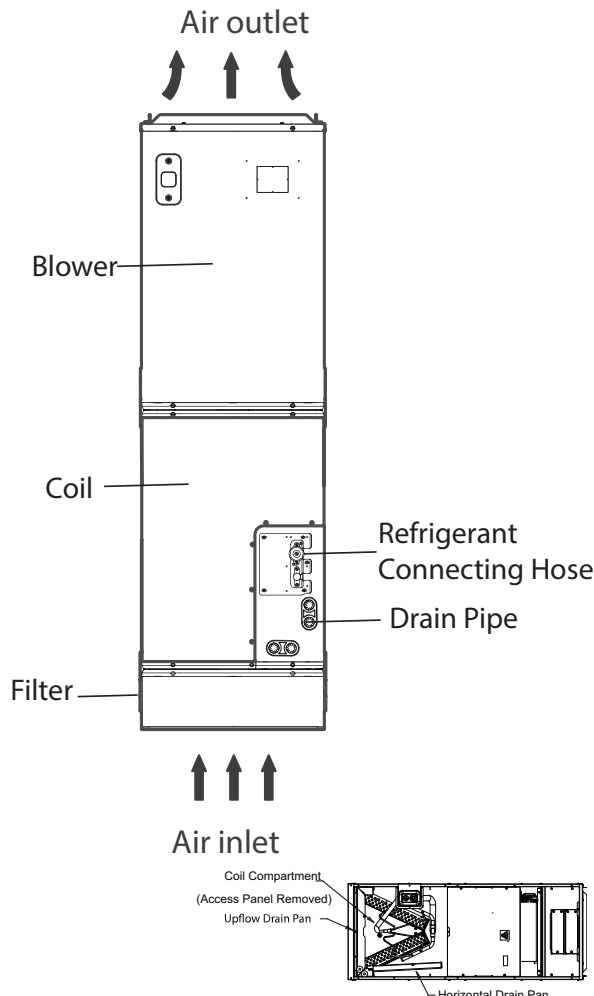

Fig. 15 —Indoor Unit Representation
- Illustrations in this manual are for explanatory purposes. The actual shape of your indoor unit may be slightly different. See Fig. 15. The actual shape shall prevail.